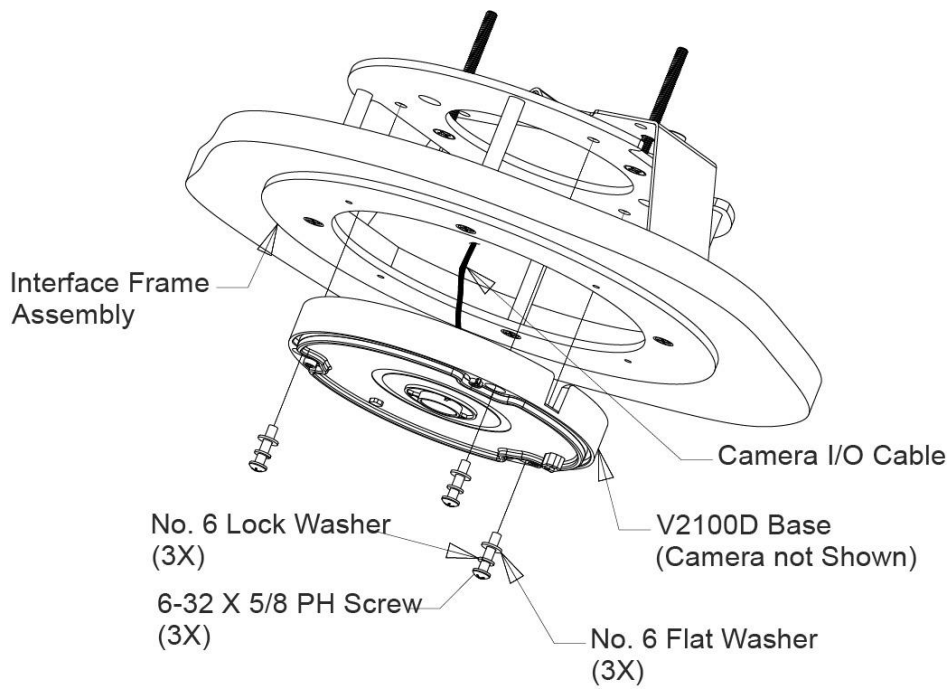

Figure 5
5. Prior to attaching the V2100D camera to the interface frame assembly (Figure 5), extend the I/O cabling with the I/O connectors through the ceiling hole. Refer to the Quick Guide XX318-20 for the cable connections.
6. Remove the V2100D trim assembly from the camera base and with the base relatively close to the opening, install the I/O cable as per the Quick Guide XX318-20. Mount the camera base to the interface frame assembly using the no. 6 hardware provided; the hardware is magnetic and using a magnetic tip screwdriver will aid in the installation. Refer to Figure 5. The camera is now ready for setup. Refer to Quick Guide XX318-20 for details.